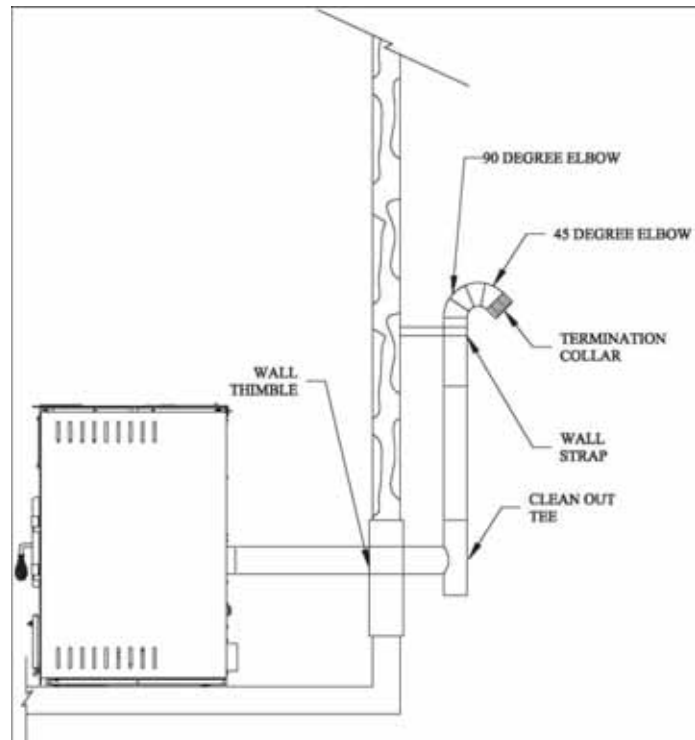

FIGURE 10
Here is an example on how to calculate the EVL of your installation. (See Figure 10):
a) Horizontally through wall (Refer to figures 10, 11, or 12)